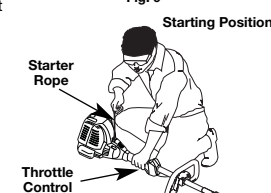

Fig. 10
WARNING: Avoid accidental starting. Make sure you are in the starting position when pulling the starter rope (Fig. 10). To avoid serious injury, the operator and unit must be in a stable position while starting. Make sure that any Add-On item is installed correctly and secure before starting the unit.
5. Crouch in the starting position (Fig. 10). Squeeze the throttle control lever. Pull the starter rope 5 times.